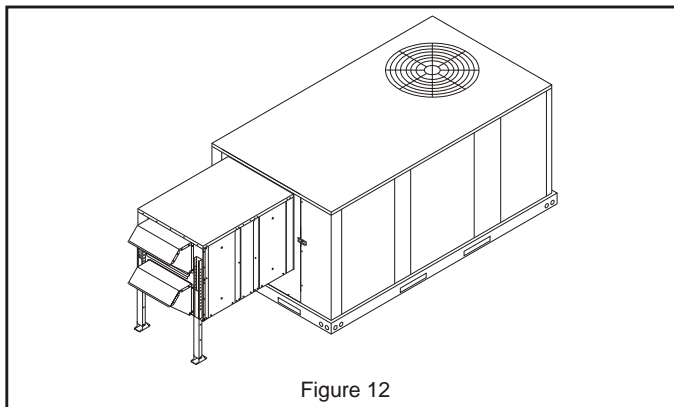

Figure 12
9. Check and seal, if necessary, along the edges where the ERS meets the rooftop unit to ensure there is no air leakage. Final assembly should resemble **Figure 12.**